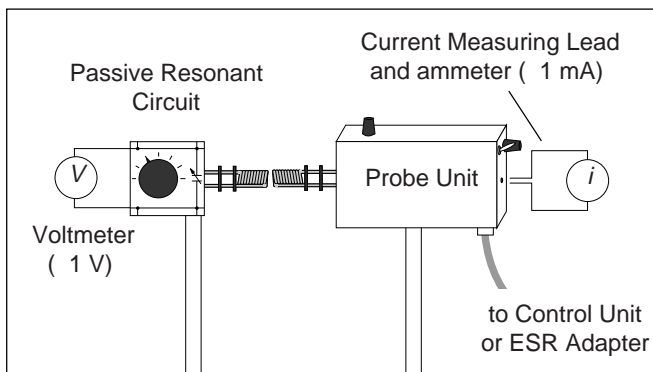

Figure A1 Setup for Using the Passive Resonant Circuit
The Passive Resonant Circuit can be used to demonstrate the principles of ESR using a classical (non-quantum) electromagnetic system. Set up the Probe Unit as for a standard ESR measurement, using the medium inductance probe coil. Instead of using the Helmholtz coils and the test sample, position the Passive Resonant Circuit as in Figure A1. To observe resonance absorption, tune the Probe Unit and the Resonant Circuit to the same frequency. This simple demonstration shows how energy from the RF oscillator can be absorbed by a resonant system that is tuned to the same frequency.
►**NOTE:** For a slightly simpler setup than is used for standard ESR measurements, you can use the Current Measuring Lead to connect the Probe Unit to a Ammeter (see Figure A1). This eliminates the need for an oscilloscope. You will be able to see the drop in current in the ammeter when resonance is achieved.